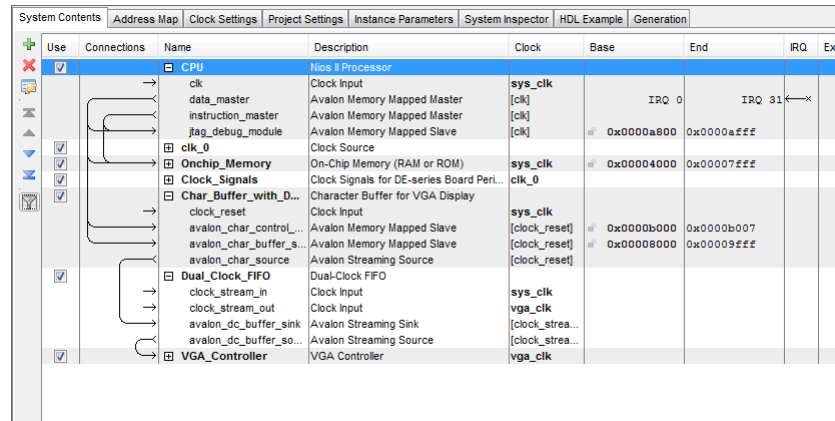

Figure 1. Character display example's Qsys system
In this example, drawing characters on the screen is implemented using the system shown in figure 1. To display a character on the screen, users must specify the character location to the Character Buffer IP core. Once specified, the character buffer renders an image of each character and sends it to the Dual-Clock (DC) FIFO core. The DC FIFO buffers part of an image to be displayed on the screen until the VGA IP core is ready to display it. When the VGA cores is ready, the image will be displayed on the screen. It is important to note that in this example the VGA IP core and the character buffer operate at different clock frequencies. This is because the VGA IP Core needs to run at 25 MHz to properly display an image on the screen, while the Character Buffer was connected to the system clock, which runs at 50 MHz. To allow both components to work together, the Clock Signals core generates the appropriate clocks, and the DC FIFO facilitates reliable communication between the two IP cores.